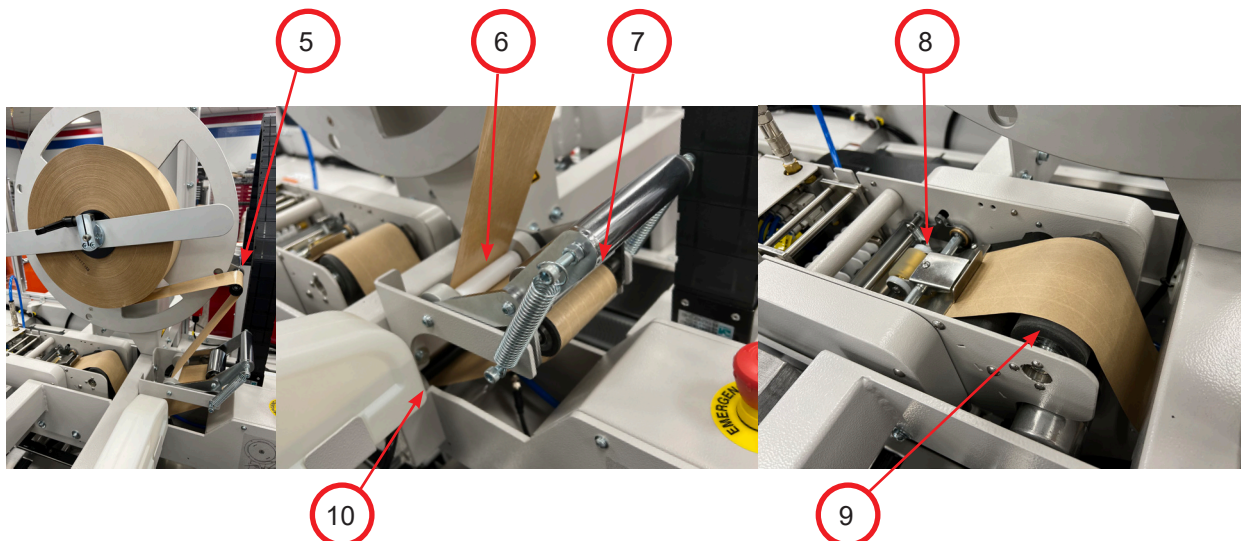

Figure 31: Top Tape Threading
3. Pull tape around peel-off roller and towards the front of the machine (Figure 31, Item 5).
4. Bring tape around Guide Roller #1 (Figure 31, Item 6) followed by bringing the tape between the clutch roller and Guide Roller #2 (Figure 31, Item 7).
5. After threading around second guide roller, pass tape under the third roller (Figure 31, Item 10) and pull towards the back of the machine.
6. Bring the tape over the powered drive roller (Figure 31, Item 9) and towards pinch roller (Figure 31, Item 8).